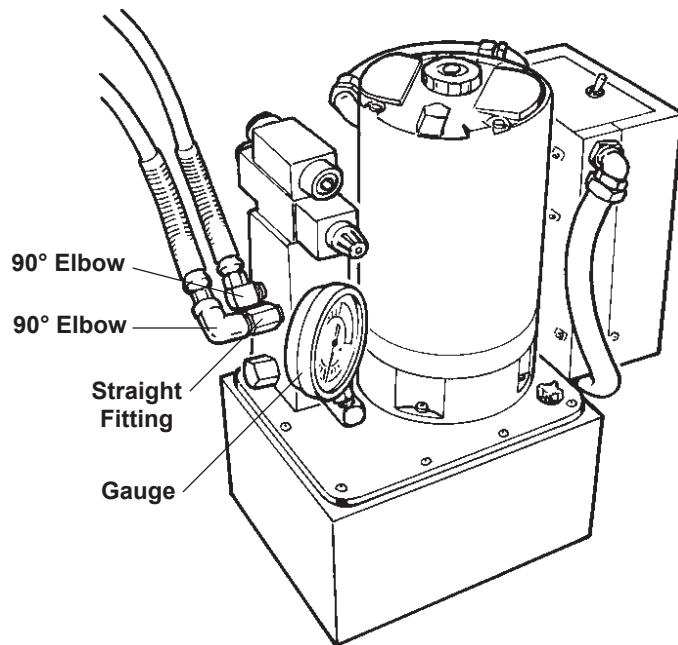
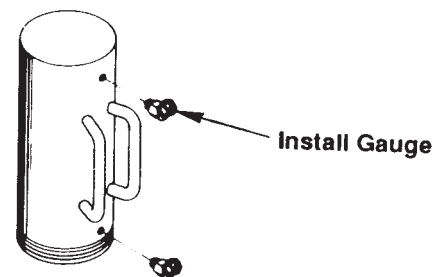

FIGURE 1
FIGURE 2
5. The gauge can be mounted to the gauge port with a 45° elbow as shown in Figure 1. The gauge can also be mounted at the cylinder by using a tee adapter between the swivel fitting and hose. If you are using a double-acting cylinder, install the gauge in the top swivel fitting. See Figure 2, at right. In either case, install a pipe plug in the pump's gauge port.